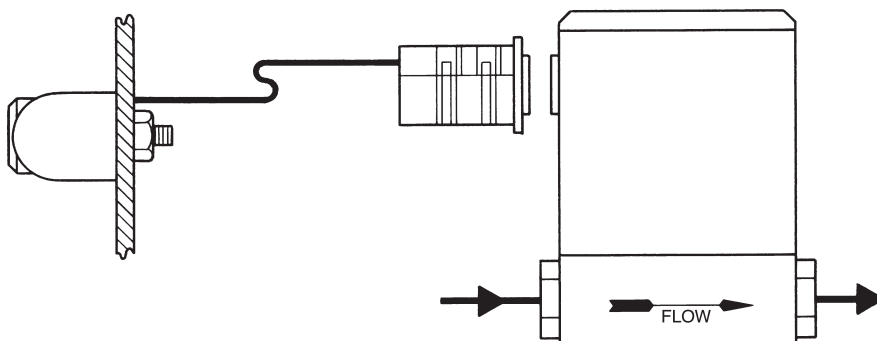

Figure 2-4
As shown in Figure 2-4, the digital display on your MAS may be removed and mounted remotely on a front panel. The MAS transducer is mounted at any convenient location in your system.
7. Mount the digital display as shown in Figure 2-4 referring to the panel mounting hole dimensions in Section 1.3, SPECIFICATIONS.